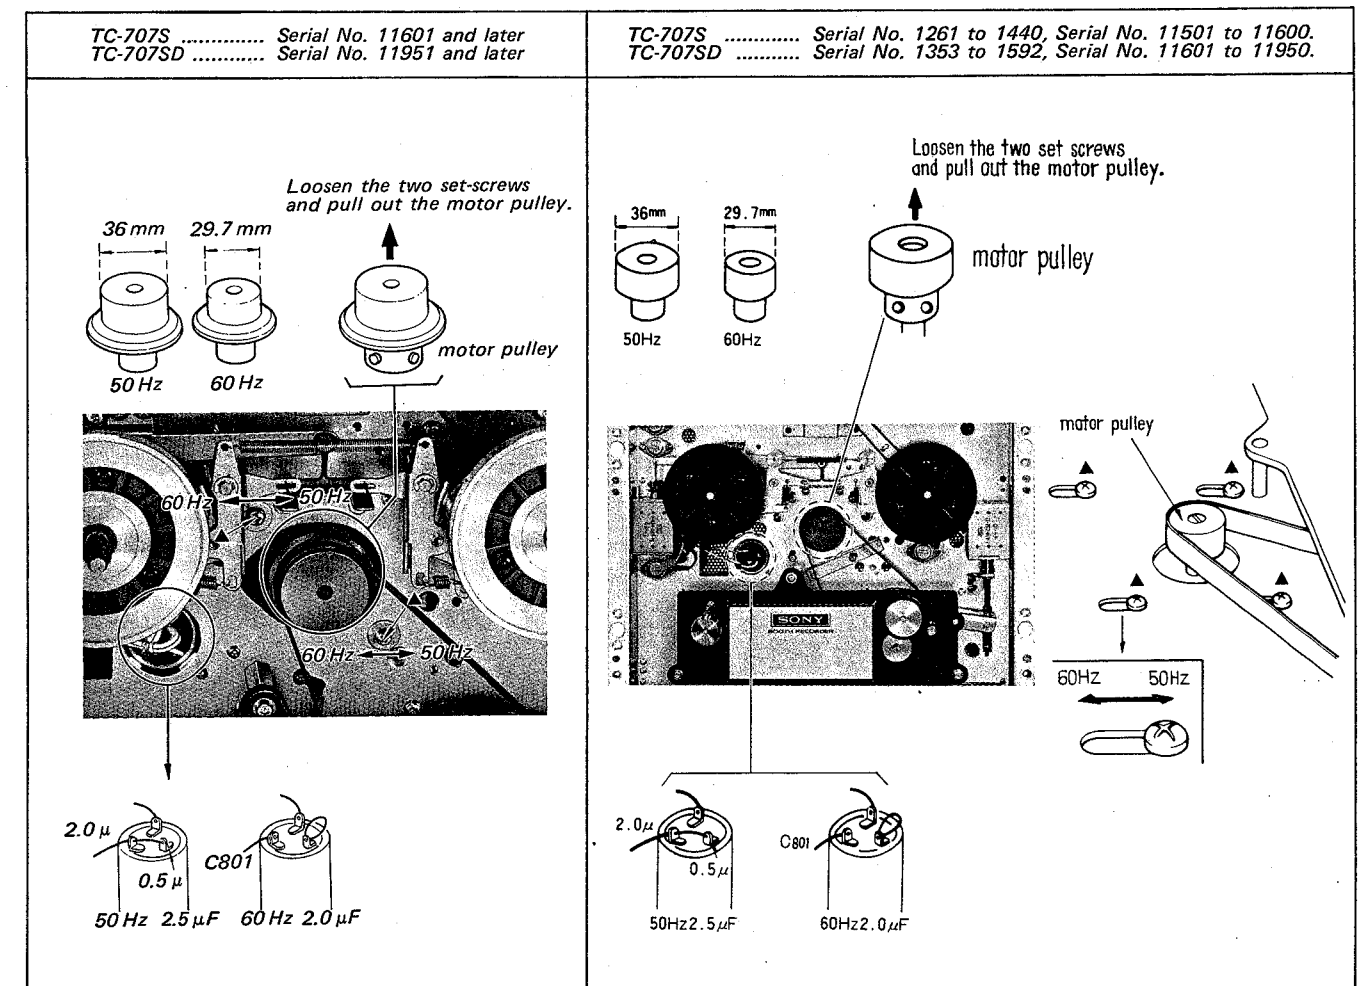

Fig. 5-1. Motor position and adjusting parts Location
- (1) To make the tension of the capstan belt constant, adjust the position of the motor by loosening the screws marked with ▲ and by sliding the motor in the direction shown in Fig. 5-1.
For a 50 Hz line frequency, both end taps should be connected by a jumper wire, while for a 60 Hz, these should be left open as shown in Fig. 5-1.